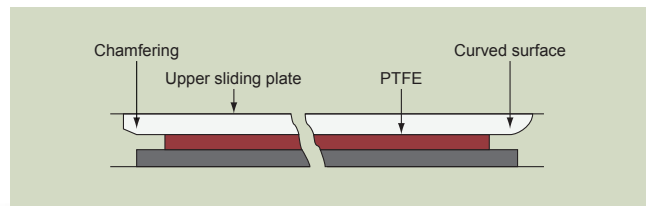

Figure 2 Chamfering and curved surface machining of sliding plate
Perform chamfering or curved surface machining (R) on it to prevent damage to the PTFE surface during construction. (See Figure 2.)